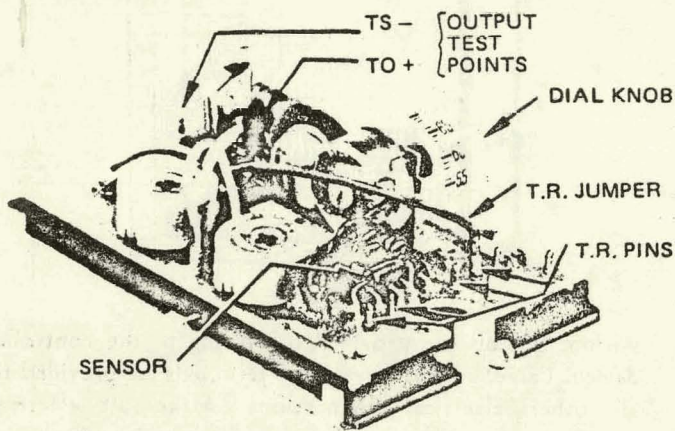

Fig. 1 - TP-8101 Component Locations
1. **Remote Setpoint:** Remove dial knob from the TP-8101, Figure 1, and install the AT-8158 remote setpoint adjuster between terminals 1, 2 & 7. This is used for applications where the setpoint adjustment is mounted remote from the TP 8101 controller.
2. **Remote Sensing:** Remove the internal 1000 ohm sensor, Figure 1, and install the remote sensor (TS-8000 series) between terminals 7 & 8. This is used for applications where the sensor is mounted remote from the TP-8101 controller.